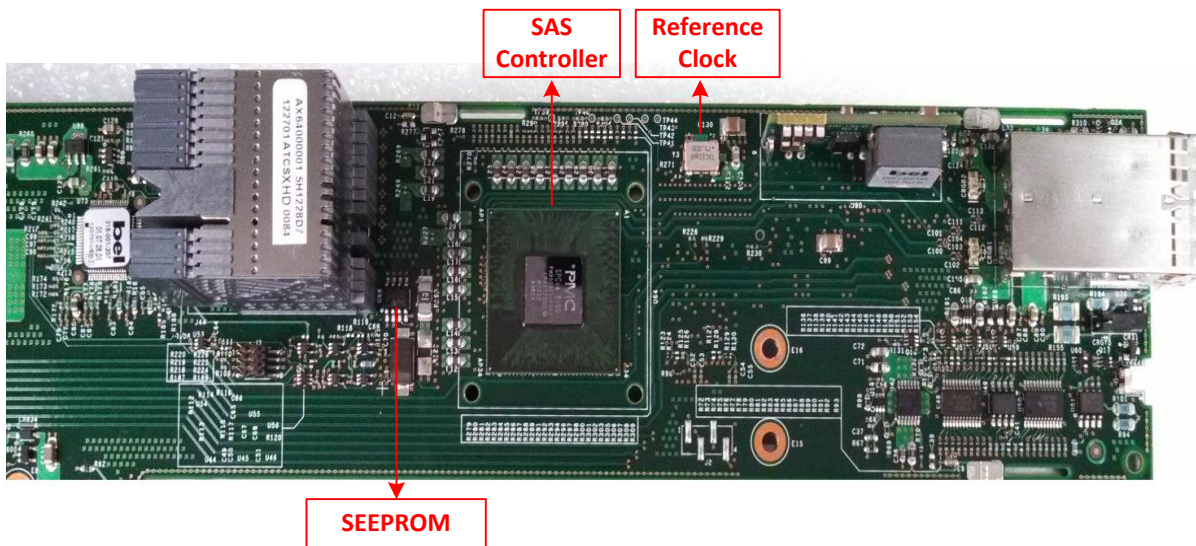
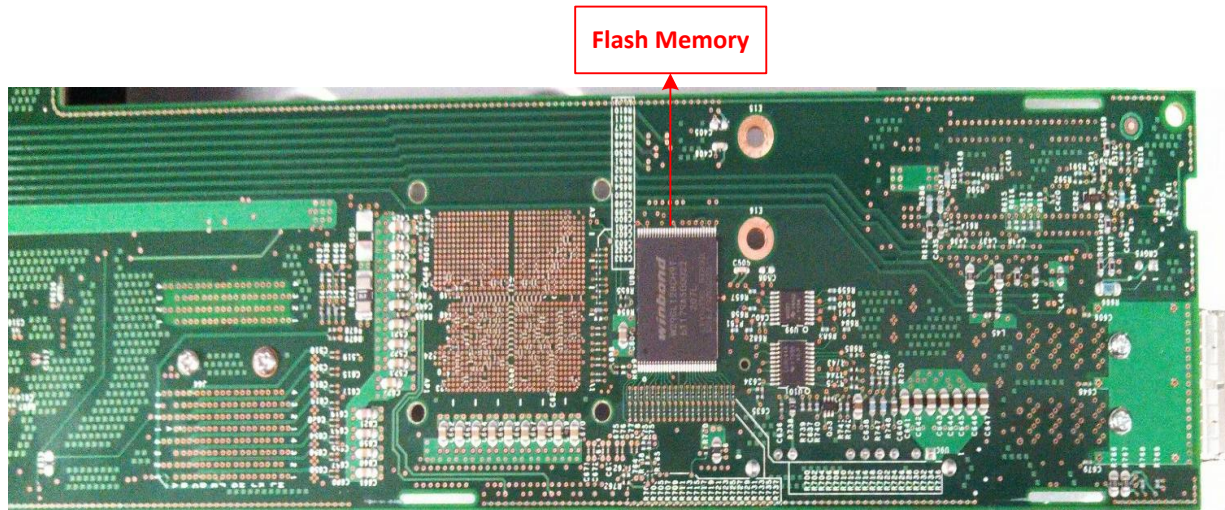

Figure 3 – Base Module Form Factor (Top View)
Figure 4 – Base Module Form Factor (Bottom View)
- The second form factor includes the PM8009 SAS controller variant (version 1.2.1-303-224-000C-03) and is embedded within the Base Module of a storage processor of the VNX Storage Arrays. The PM8009 is an eight-lane SAS controller configured to provide two quad-lane SAS interfaces. Figure 3 and Figure 4 below provide top and bottom views of the Base Module form factor.